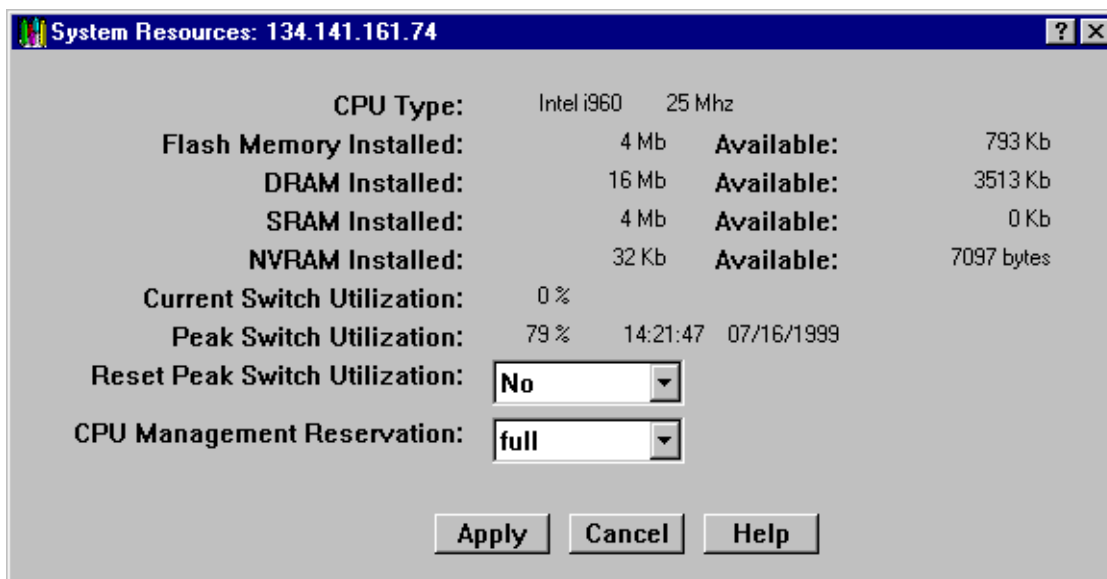

Figure 2-24. The System Resources Window
2. Click on **System Resources**. The System Resources window, Figure 2-24, will appear.